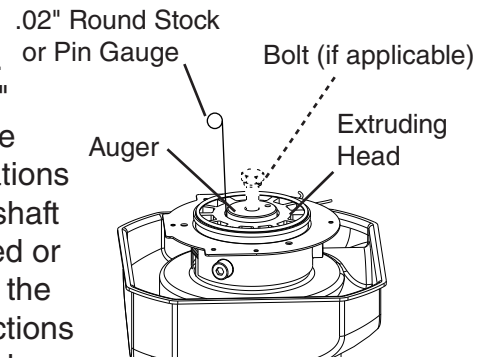

Fig. 12
- 5) Replace the bolt in the auger (if applicable). See Fig. 12. Move the auger towards you and then try to insert a .02" round stock or pin gauge in between the back side of the auger shaft and the bearing surface. Check several locations around the auger shaft. If the gauge goes between the shaft and the bearing at any point or if the bearing is scratched or cracked, both the top bearing in the extruding head and the lower bearing in the housing should be replaced. Instructions for removing the extruding head and housing are located later in this procedure.